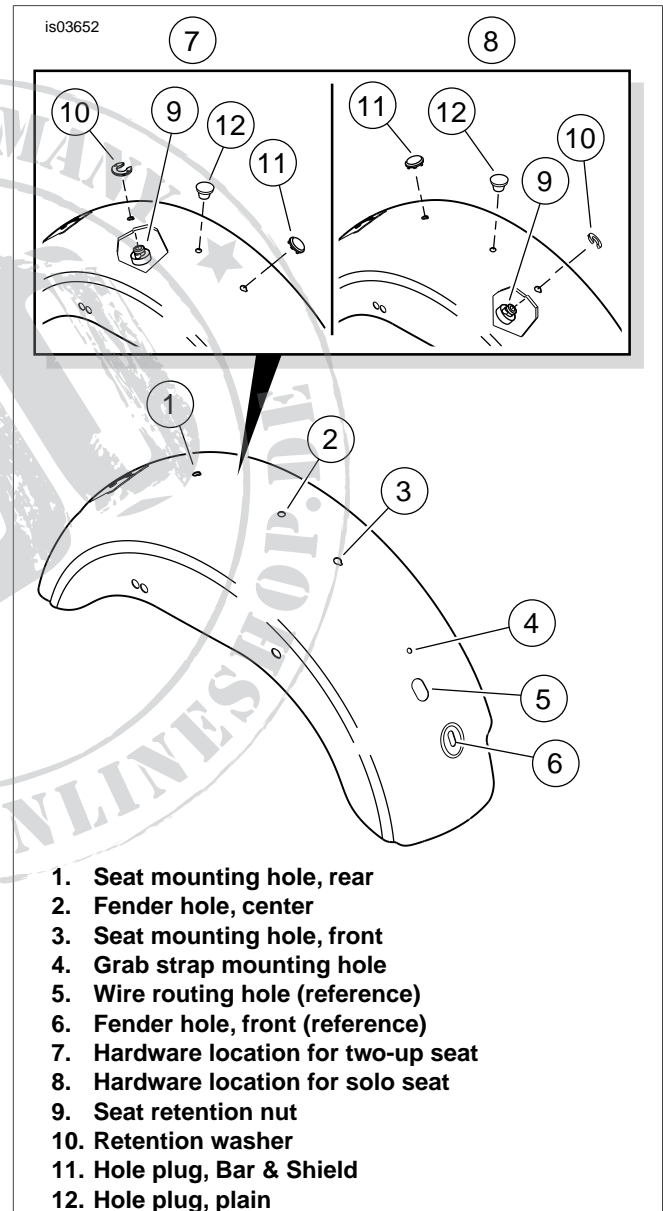
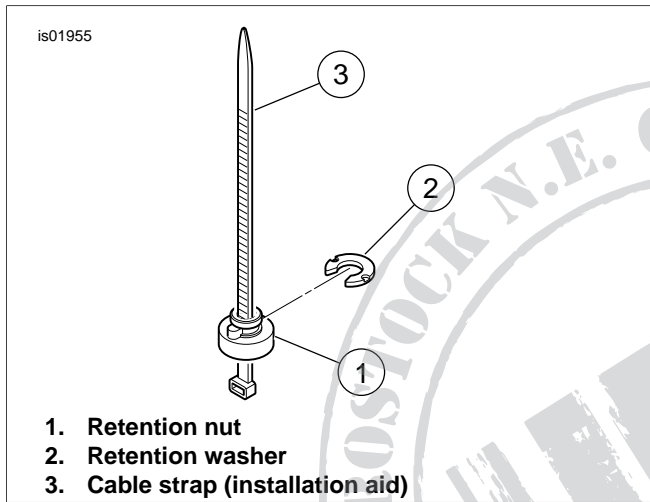

Figure 1. Fender Hole Identification and Hardware Locations
Figure 2. Retention Nut Installation
If a solo seat WAS installed: See Figure 1. Remove the Bar & Shield hole plug (11) from the rear seat mounting hole (1).
4. See Figure 2. Obtain the cable strap (3) from the kit.
- a. Place the retention nut (1) over the cable strap (3) so that the wide end of the nut rests on the eye of the cable strap.
- d. With the rib on the retention nut seated into the notch in the fender hole, slide the retention washer (2) into place from the rear (this will lock the retention nut in place), then remove the cable strap.
If a two-up seat WAS installed: See Figure 1. Remove the Bar & Shield hole plug (11) from the front seat mounting hole (3).
3. At the rear seat mounting hole (1), remove the retention washer (10) from the seat retention nut (9). From the underside of the fender, remove the seat retention nut from the vehicle. Insert the Bar & Shield hole plug into the rear seat mounting hole.